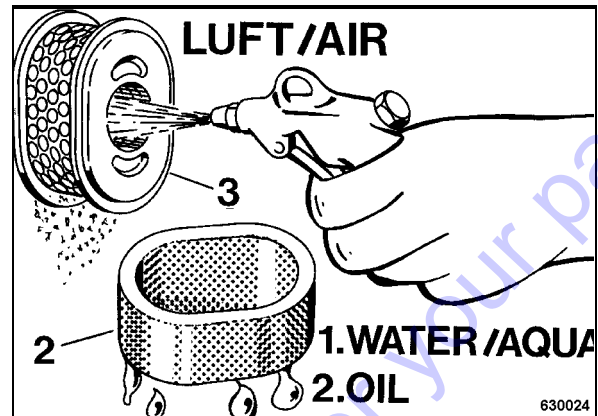

Fig. 42
- Blow the paper insert 3 (Fig. 42) carefully out from inside to outside with dry, clean compressed air.
- Clean the foam insert (2) in warm soapy water, rinse it and let it dry thoroughly.
- Pull the foam insert (2) over the paper insert (3).